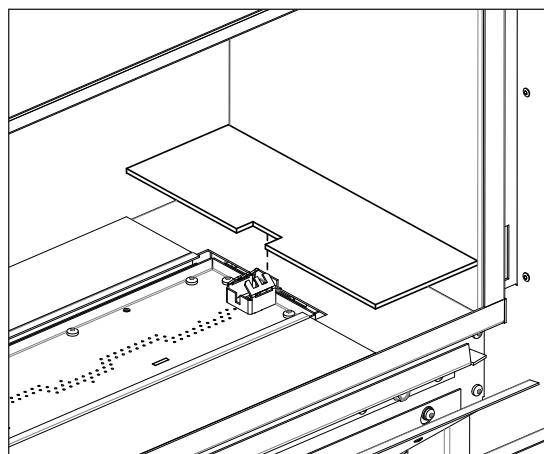

Figure 64: Bezel Placement Around Pilot
3. Ensure that the short, notched bezel is placed around the pilot assembly as shown in Figure 64.